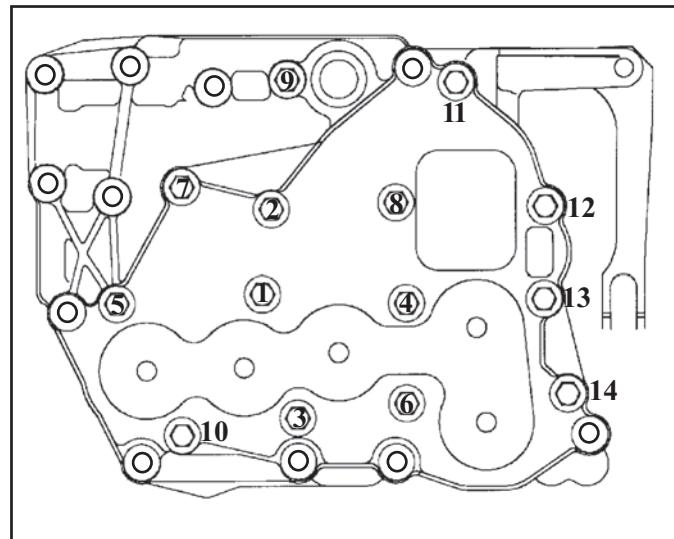

Figure 188
24. Torque all 14 bolts to 11. N·m (97 in. lbs.) in the numerical sequence shown in Figure 188.